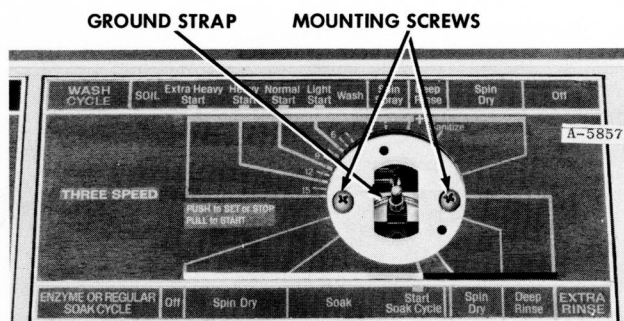

Figure 45
4. Be sure timer grounding strap is positioned correctly before mounting timer into housing, Figure 45.